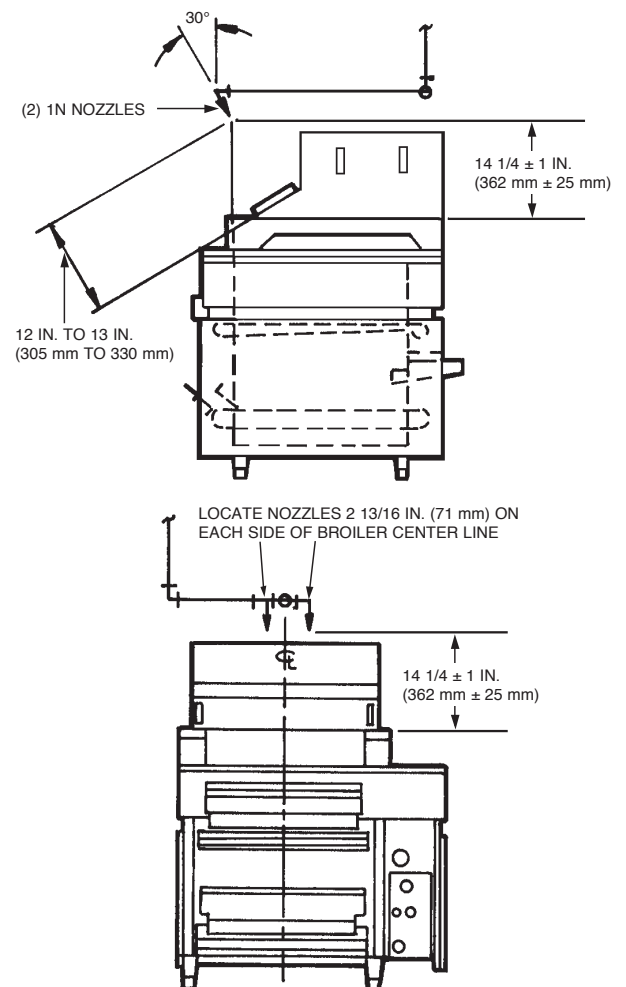

FIGURE 4-96
- Each individual broiler must be protected with a minimum of two 1N nozzles. The nozzles must be located as shown in Figure 4-96.